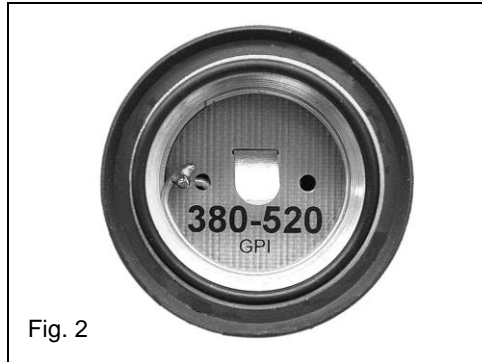

Fig. 2
## 3. Pre-Installation (Figure 2):
- c. Ensure O-ring is properly seated within O-ring groove as shown in Figure 2.